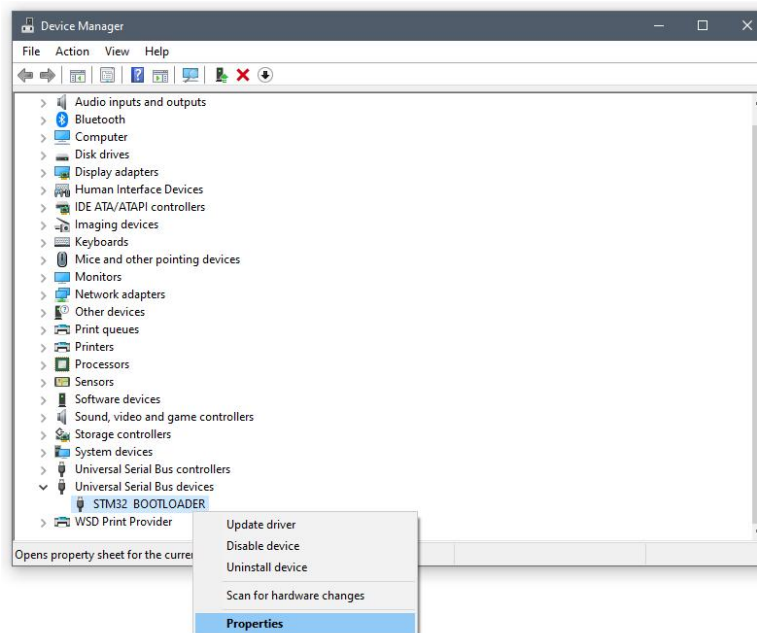

Figure 28: Finding the device using the wrong driver.
4. In the Device Manager Console, expand the "Universal Serial Bus devices" and right-click on "STM32 BOOTLOADER" as shown if Figure 28. If "STM32 BOOTLOADER" cannot be found call Avid for technical support.